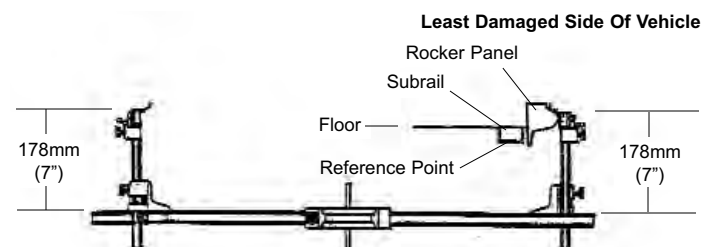

Figure 61
5. Raise the bar on the most damaged side of the vehicle 25mm (1 inch) and tighten the thumb screw on the scale housing. (See Figure 61.)